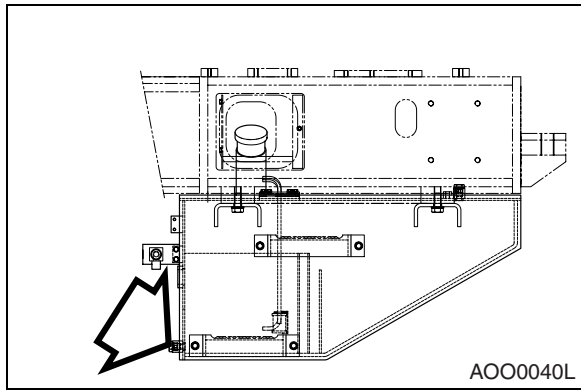
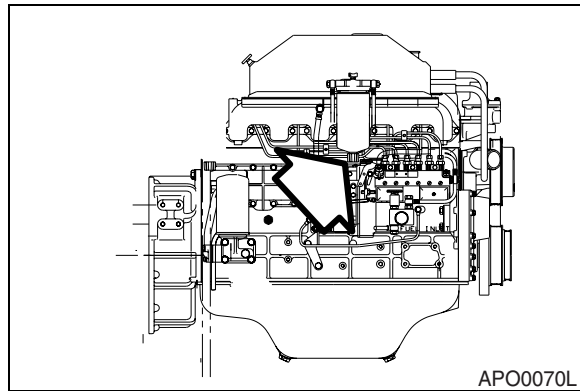

Figure 16
Figure 17
1. Open fuel tank drain valve (Figure 16). Allow any condensed water or sediment to drain out of tank. Also open drain on fuel filter and drain out any water or sediment (Figure 17). Catch drained material in a container. Properly dispose of drained material.